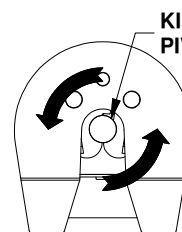
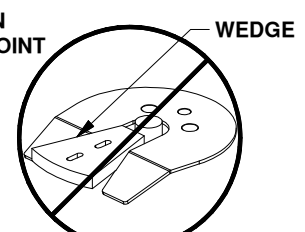

Figure G1: Top view of coupler.
Figure G2: Coupler with locking wedge.
- WARNING:** Do not use the Companion 5th wheel hitch with any device that changes the location of the king pin pivot point. The king pin on your trailer must rotate in the jaws of the Companion coupler, see Figure G1. Preventing the king pin from rotating within the jaws of the Companion coupler with a wedge, see Figure G2, or any other device, such as a Reese Sidewinder® or Reese Revolution®, could result in property damage, serious injury, or death.